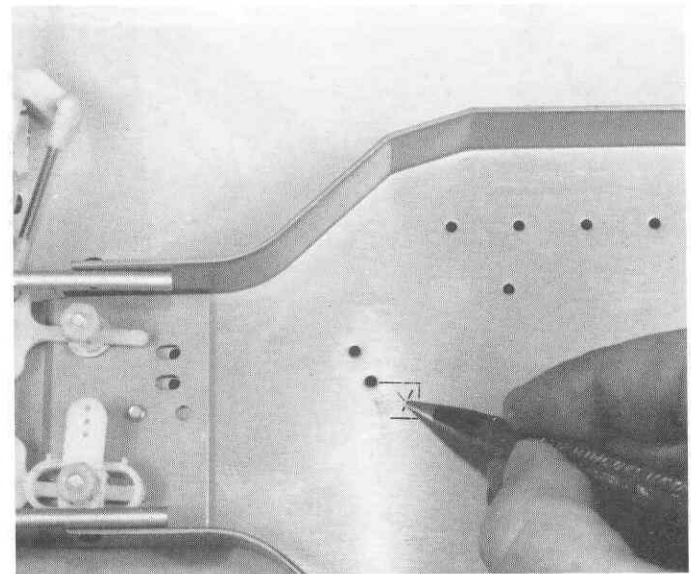

Fig. 147
□ **Fig. 147** Remove the servo and mark a spot to drill within the outline of the mounting block.